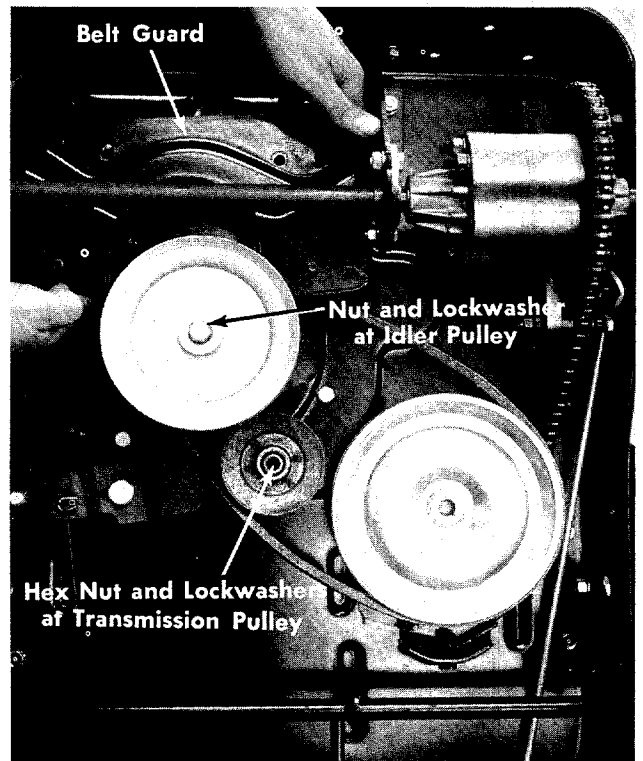

FIGURE 21. ENGINE BELT GUARD REMOVAL
- Step 4. Remove the belt guard at the engine pulley. See figure 21.
- Step 5. Remove the nut and lock washers at the idler pulley. See figure 21.